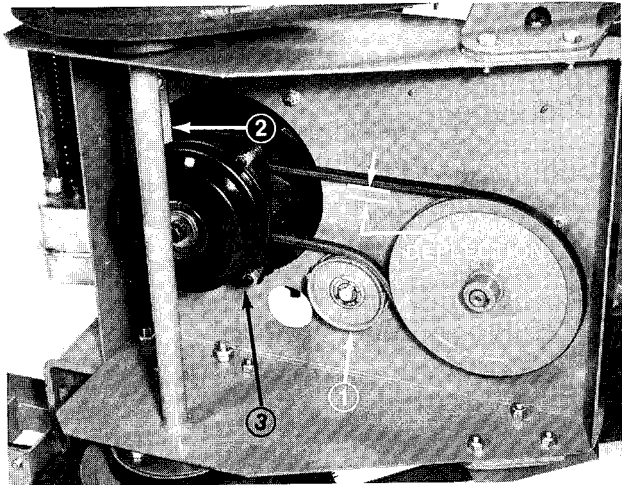

Figure 21
1. Loosen capscrew and flange nut securing idler pulley to frame (Fig. 21). Slide pulley outward relieving belt tension.
2. Remove left front engine mounting bolt securing clutch retainer to frame (Fig. 21). Unhook retainer from clutch and remove retainer.
3. Disconnect in-line wire connector and remove belt from drive pulley and clutch (Fig. 21).
6. Position and secure idler pulley to frame so belt deflection is no more than 11/64" when 5–1/2 lb of force is applied to mid span of long leg of belt (Fig. 21).
1. To adjust clutch, tighten or loosen locknuts on flange studs (Fig. 21).